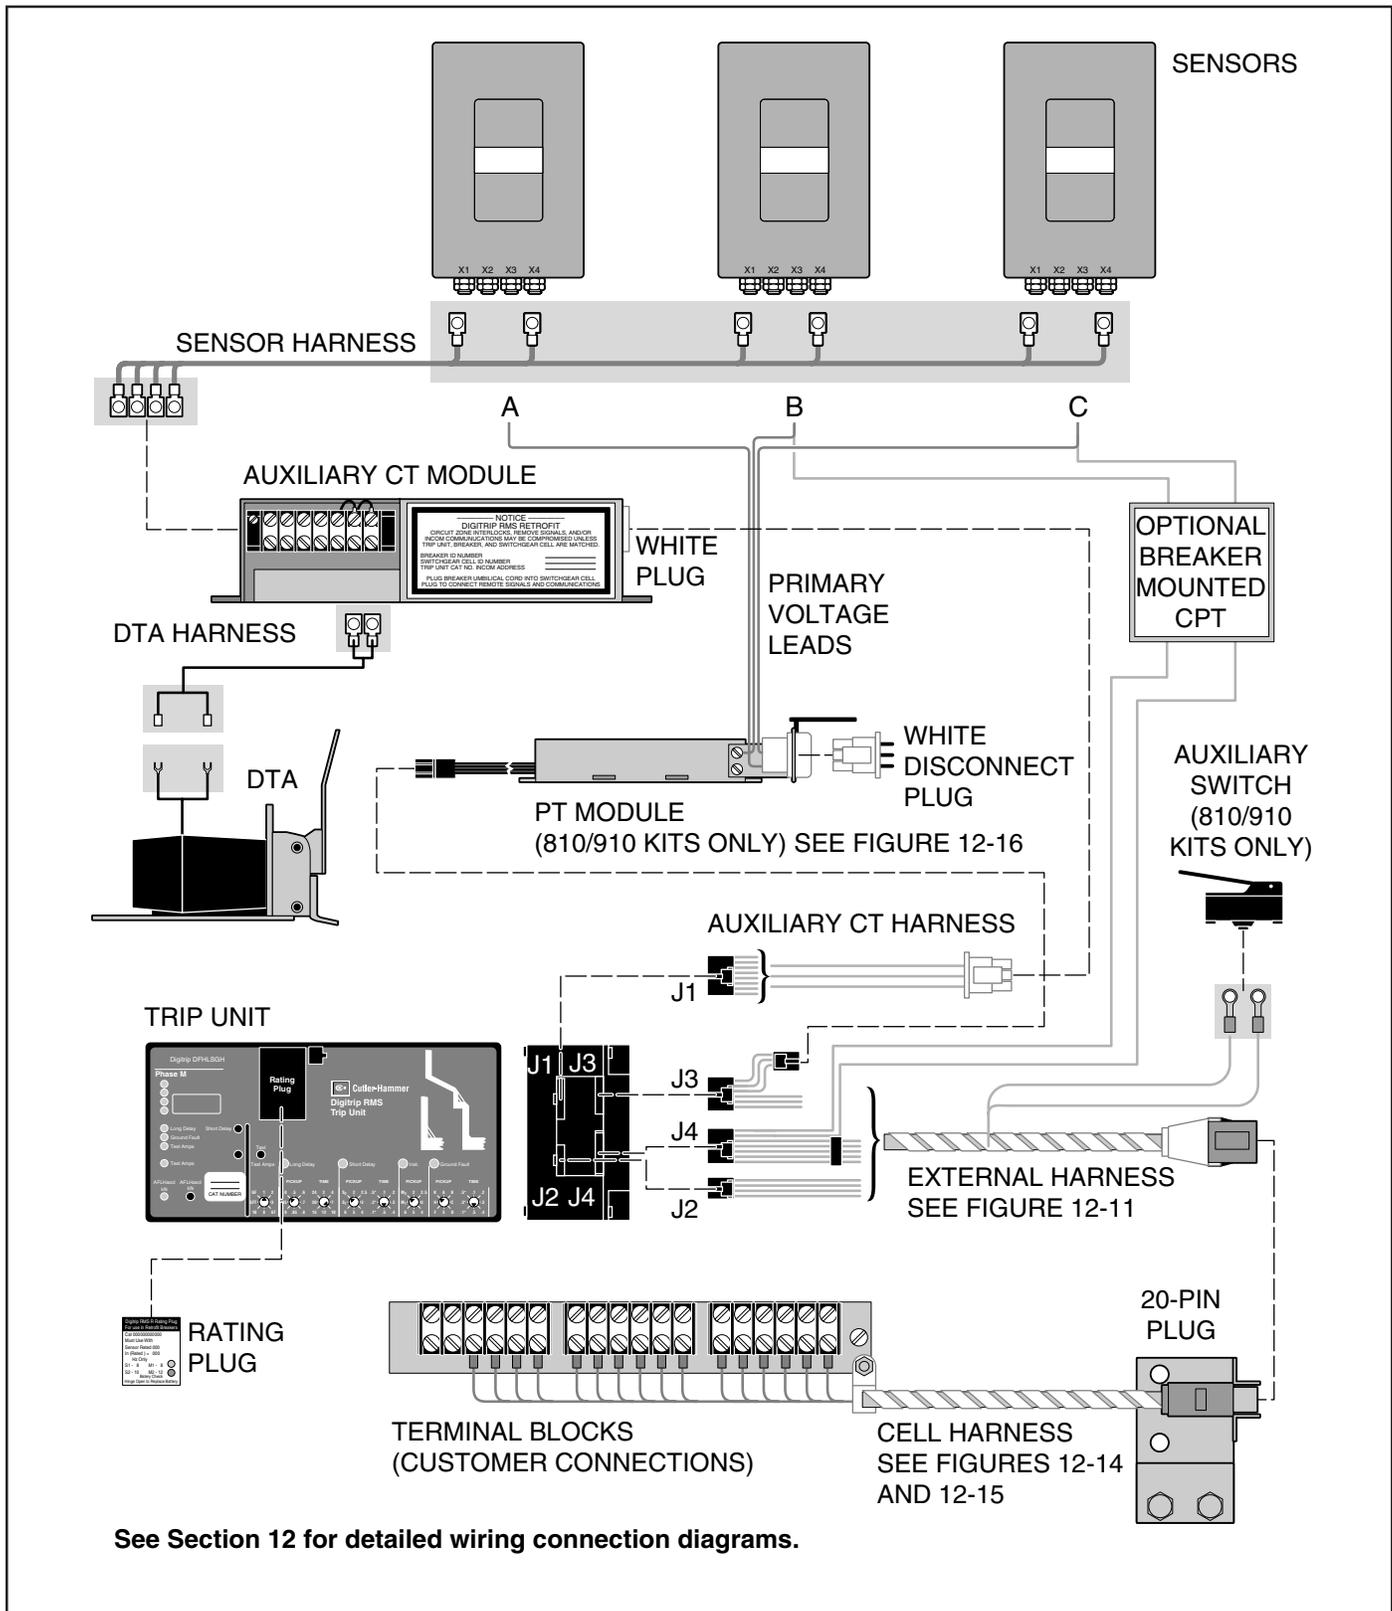

Fig. 7-1 Digitrip RMS 810 & 910 Wiring
A 120 VAC control power source is required to power up the Power Relay Module (ATR) remote signals, the local mode of trip indicators, PowerNet Communications, and the Trip Unit Alphanumeric Digital Display. A Potential Transformer (PT) Module provides the distribution system voltage input to the Trip Unit. The PT Module is provided with a disconnect plug which is to be disconnected in the event of Breaker dielectric testing. Figures 7-1, 12-10, and 12-14 provide the Retrofit Kit wiring connections on the Breaker and in the Switchgear Cell. All Retrofit Kit components are mounted on the Breaker, except the Cell Harness Assembly.
\*The Zone Interlock and ATR Relay Contacts are available on 810 & 910 Kits with the normal Cell Harness. A popular option is to specify the Breaker Mounted CPT with a simplified Cell Harness. In this case, the Zone Interlock and ATR contacts are omitted and only the INCOMM connections are required in the Cell (Figure 7-1).